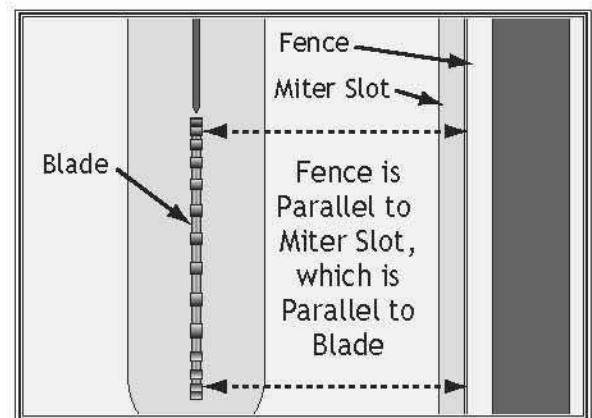

Figure 119. Checking fence parallelism with blade.
2. Slide fence against right edge of miter slot, lock it in place, then raise blade fully. Using a ruler, examine how fence lines up with miter slot and blade (see **Figure 119**).